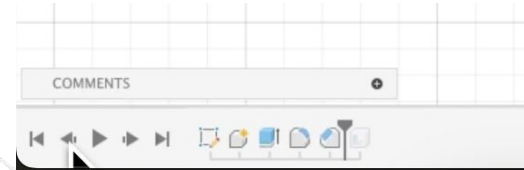

Figure 1.8
- The '**Timeline**' at the bottom of the screen records every step (sketches, extrusions, fillets, etc.) (see Figure 1.8).